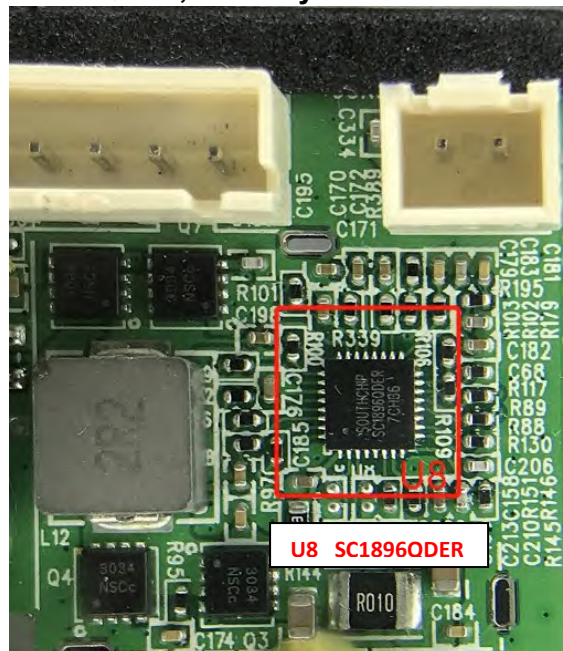

Fig. 4
---And component U8: **SC1896QDER**, it is only different from Solution B, as shown in Fig. 4